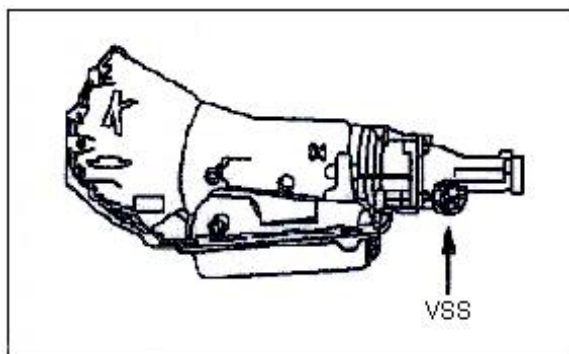
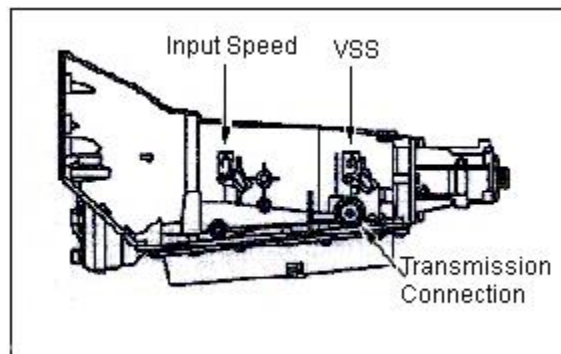
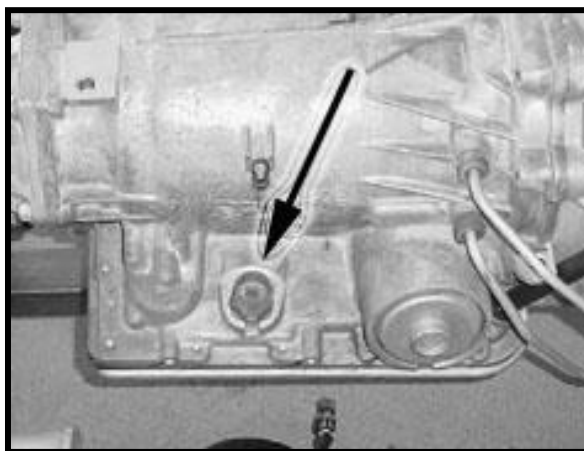

FIGURE 20 VSS Sensor (4L60E)
FIGURE 21 VSS & Input Speed Sensor, Transmission Connection (4L80E)
FIGURE 22 4L60E/65 E Transmission Connection
- The Output Speed Sensor location will vary depending on the transmission used. 4L60/65E transmissions have the sensor located on the driver side of the tail shaft, as seen in **Figure 20**. 4L80/85E transmissions have the sensor mounted on the driver side transmission case, seen in **Figure 21**
- The Input Speed connector will be found at the front, driver side of the transmission case, as seen in **Figure 21**.
- The Transmission connector location will vary depending on the transmission used. 4L60/65E transmissions have the connection located on the passenger side, as seen in **Figure 22**. 4L80/85E transmissions have the connection on the rear of the driver side transmission case, seen in **Figure 21**. 4L80/85E will need to move 2 wires in this connector for proper operation, see the proceeding steps.